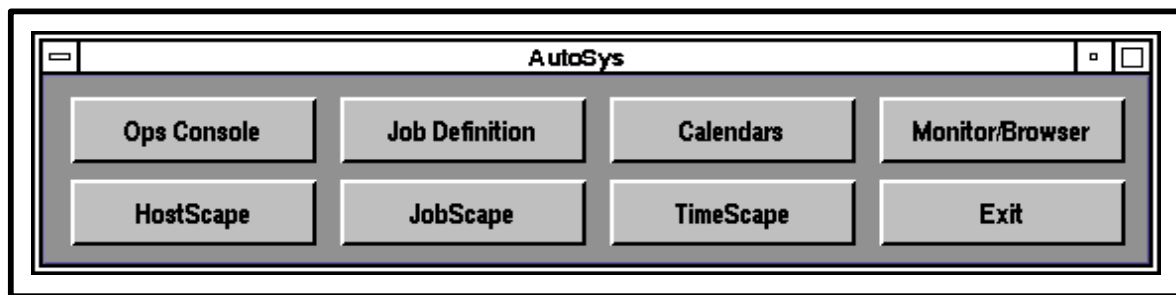

Figure 52. AutoSys GUI Control Panel
- The **AutoSys GUI Control Panel** (Figure 52) is displayed.
The procedure for selecting jobs to be displayed on AutoSys/AutoXpert GUIs assumes that AutoSys has been launched and the **AutoSys GUI Control Panel** (Figure 52) is being displayed.